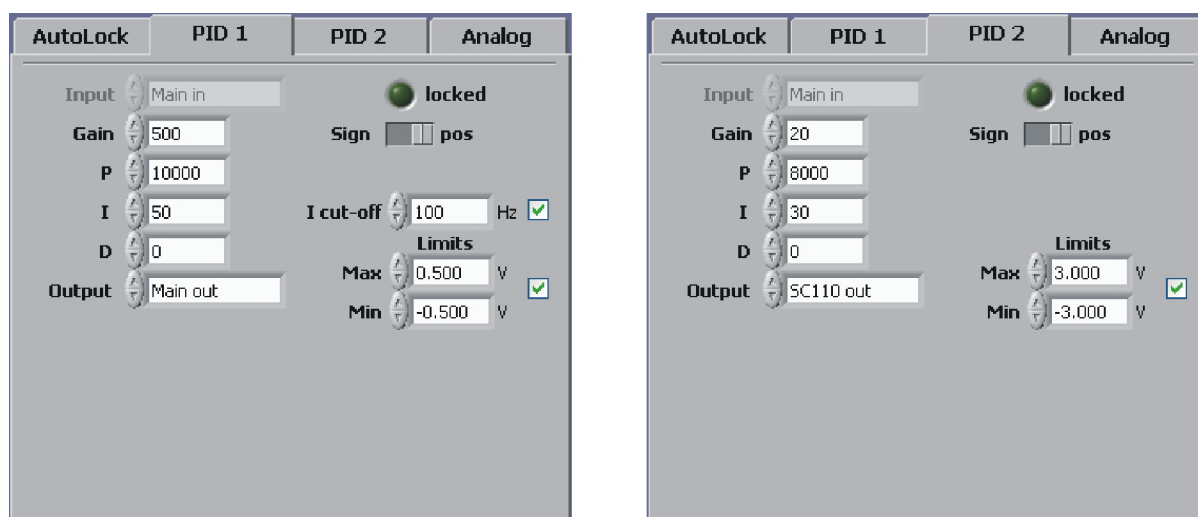

Figure 43 PID Setup for locking to the slope of a Doppler-free Rb peak
17. To configure the PID controllers, select the **PID 1/PID 2** tab (see Figure 11 and Figure 13) to access the corresponding parameters (see Figure 43). A valid strategy is to first implement PID 2 for initial locking (setting the Gain of PID 1 to zero) and then add PID 1 to improve the lock at higher frequencies. In AutoLock mode the input channel of the PIDs is defined by the AutoLock input. **PID 1** is used for the high frequency feedback, therefore its output channel is <Main out> which is connected to the modulation input of the laser. **PID 2** is used for large range, low frequency feedback to the piezo. To prevent the controllers from mutual interaction, the **PID 1** features an "I cut-off" frequency. The "I cut-off" frequency defines the corner frequency below which the integral gain of the controller is limited. A reasonable choice is in the order of 100 Hz.
18. The values of the gain parameters for the PIDs shown in Figure 43 are set in the corresponding tabs. Their settings depend on the slope of the error signal and the actuator response. For the given setup the error signal amplitude should be on the order of 100 mV_{pp}, see above for input offset and gain. In most cases the low frequency feedback of **PID 2** is sufficient to achieve a first lock¹¹. It is advisable to start with conservative gain settings. To find the correct settings of the sign for each PID controller, please see section 9.4. Once locking is accomplished the parameters can be optimized (see section 9.3).